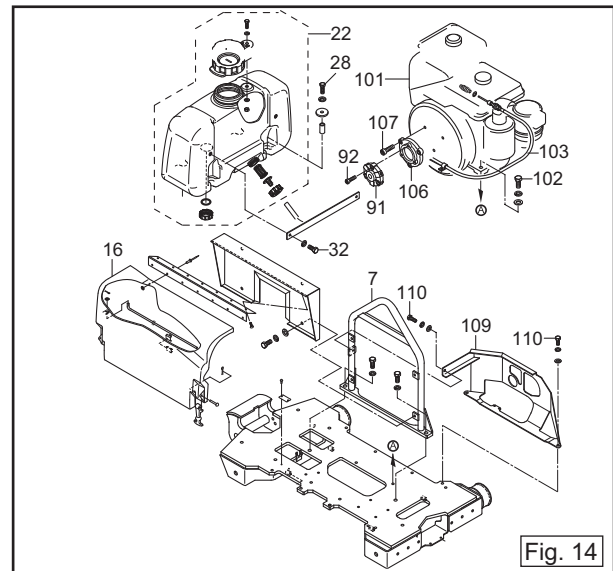

Fig. 14
3. Remove the bolts (x4) for the pump bracket, and pull out the variable pump AY from the center flex (91) that is fixed to the engine drive shaft. (Fig. 14, 15)
1. Remove the engine guard (109) and water tank (22). (Fig. 14)
2. Open the bonnet cover (16) and remove the battery (11). (Fig. 14)
3. Remove the speed throttle wire (103) and all electrical cables connected to the engine. (Fig. 14)
4. Remove the engine flange (106). (Fig. 14)
5. Remove the engine mounting bolts (102) (x4) and remove the engine with lifting hook equipped on the engine from the roller.